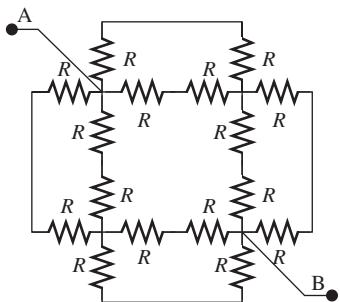

FIGURE P3.9 Circuit for Problem 3.9.
- 3.9 (H)** Find R_{AB} in Figure P3.9: